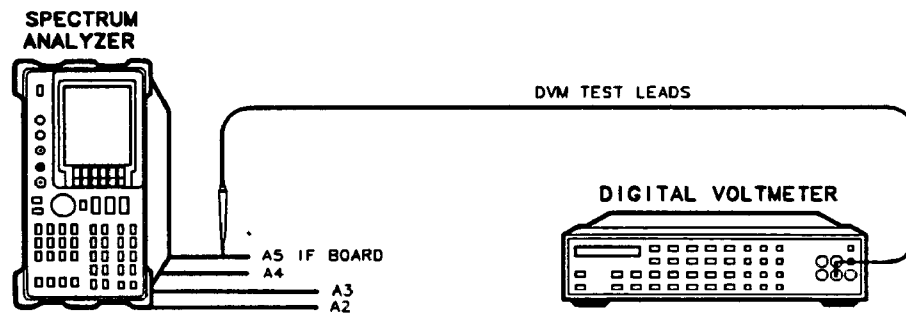

Figure 2-4. IF Bandpass Adjustment
2. Connect the negative DVM lead to pin 6 of A5J6 (see Figure 2-4). Set the HP 3456A controls as follows: